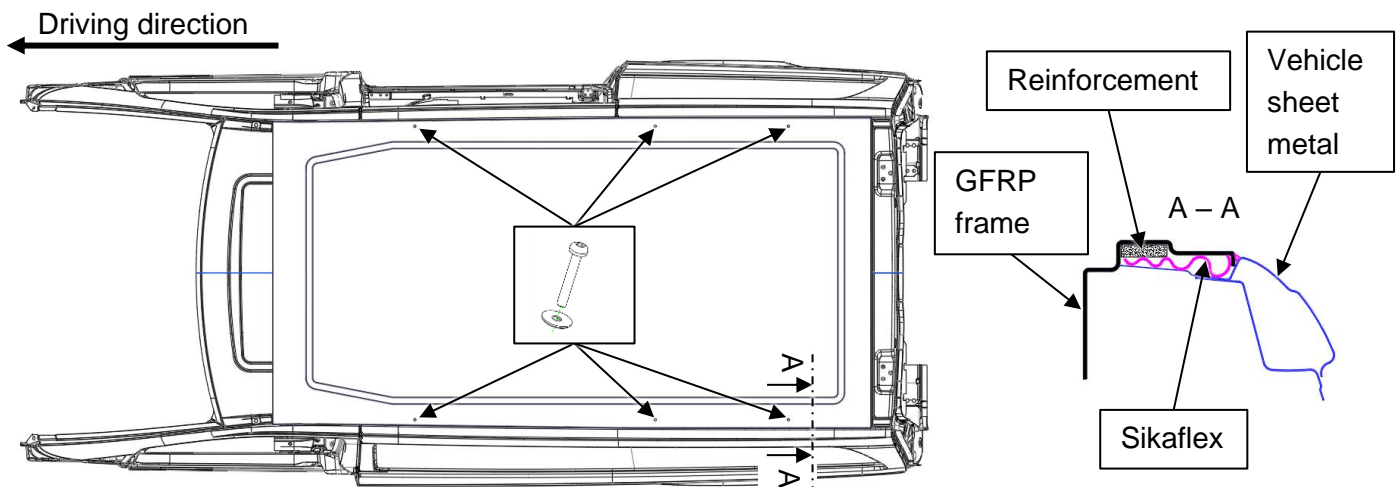

Fig. 3-3: Verschraubung des EasyFit-Rahmens [A0003880]
- Carefully place the roof and screw it to the six bolting points (see Fig. 3-3). For this, set up the roof with the spacer strips slightly.